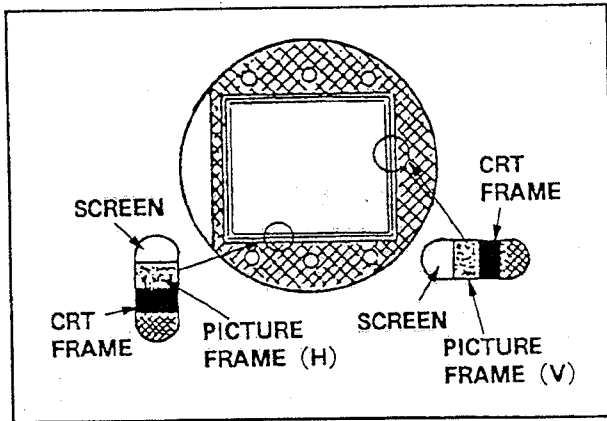

Figure F9.
2. Adjust VR7004(vertical) and VR7005 (horizontal) so that the V width and H width of the picture frame are 0.5mm as shown in Figure F9.